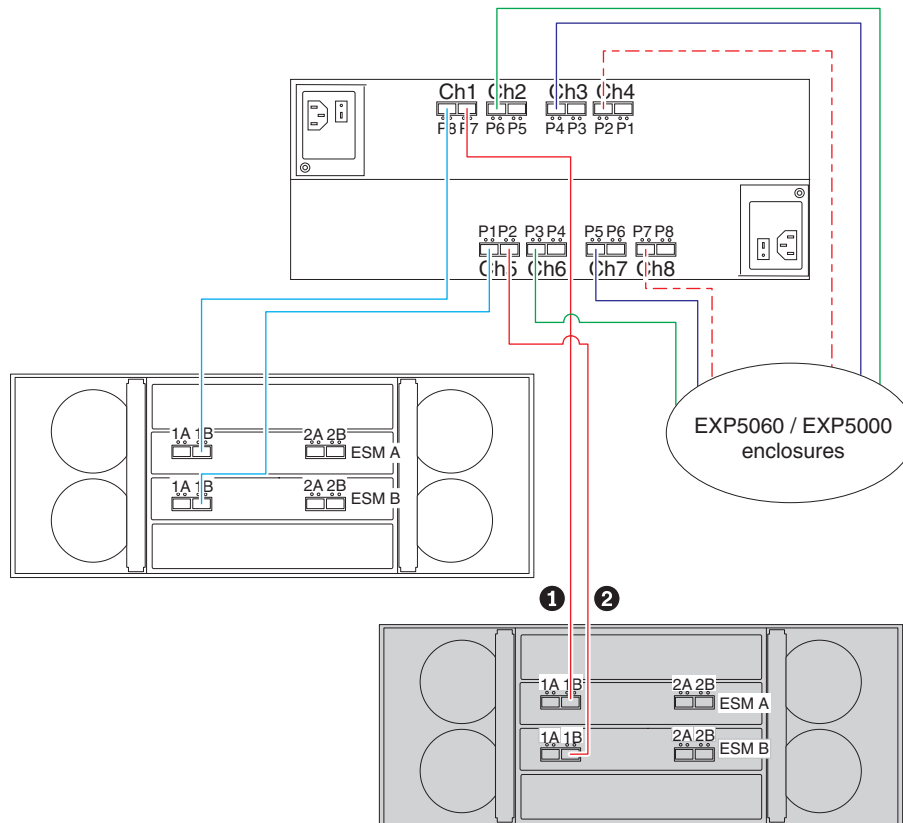

Figure 44. Adding the EXP5060 to the second port of a dual-ported drive channel (non-trunking cabling scheme)
- If there are no drive channels that have do not devices attached, add the EXP5060 enclosure to the controller dual-ported drive channel that has the second port not connected as shown in Figure 44.